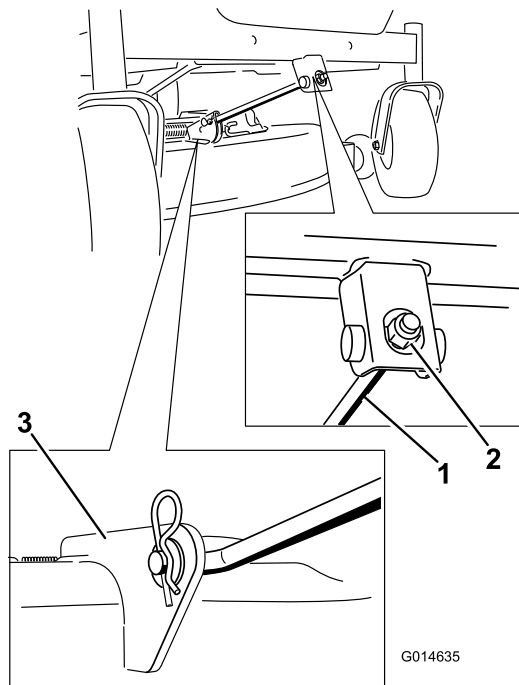

Figure 66
- Remove the hairpin-cotter pin from the front support rod, and remove the rod from the deck bracket (Figure 66).
- Attach the front support rod to the mower deck with the clevis pin and hairpin-cotter pin (Figure 66).